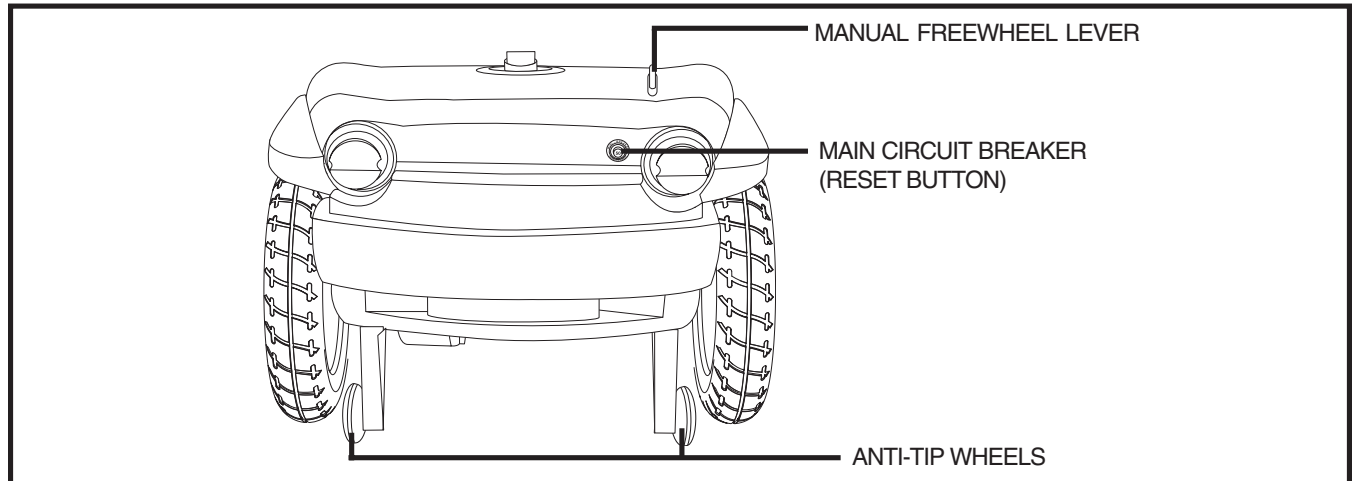

Figure 6. Rear Section
The batteries (not shown), the main circuit breaker (reset button), the manual freewheel lever, the anti-tip wheels, and the motor/transaxle assembly (not shown) are located on the rear section of your scooter. See figure 6.
- Push in the reset button to reactivate the main circuit breaker. See figure 6.